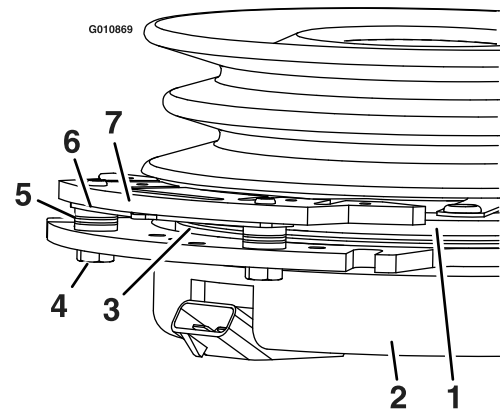

**Figure 62**
3. Remove the dust cap from caster and tighten lock nut (Figure 62).
4. Tighten the locknut until the spring washers are flat and then back off a 1/4 turn to properly set the pre-load on the bearings (Figure 62).
**Important:** Make sure the spring washers are installed correctly as shown in Figure 62.
5. Install the dust cap (Figure 62).